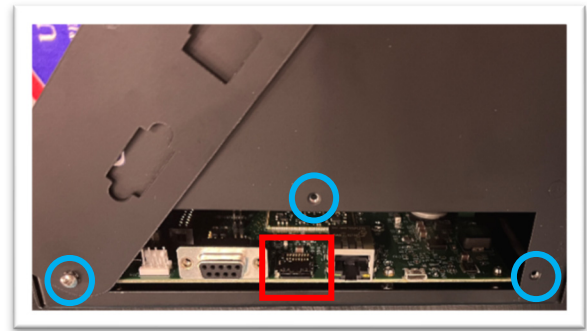

Figure 6
- Remove the microSD card (with the two firmware files) from your laptop. Power down the PROTEUS® and remove the existing original microSD card from the **onboard microSD card reader**. This is located between the Ethernet port and the RS232 DB9 connector. You must first remove the metal plate secured by **three small screws**. See Figure 6.